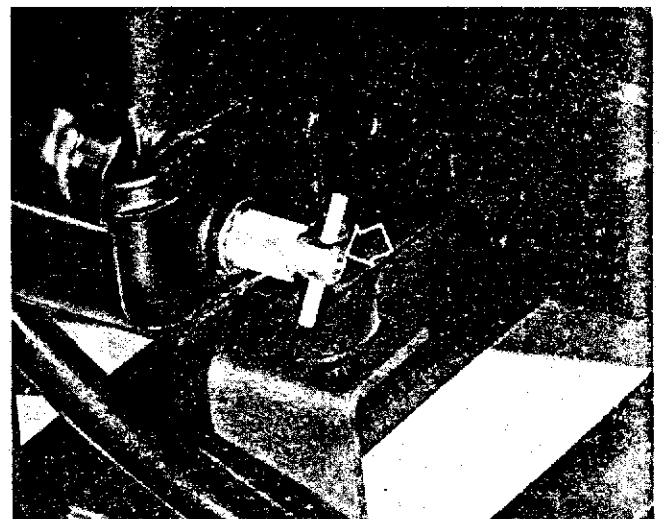
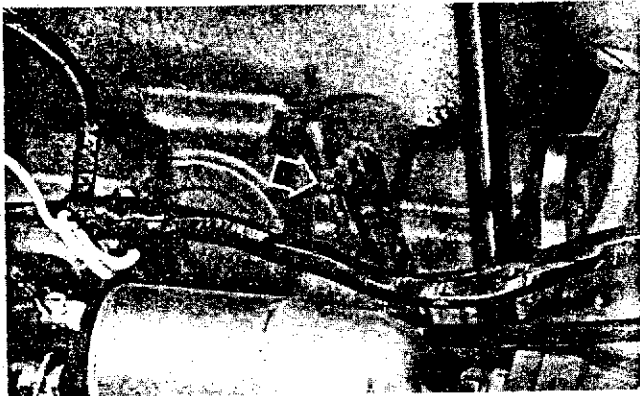

Figure 37 — Radiator Drain Valve
Figure 38 — Engine Block Drain Valve
1. Remove the radiator cap and open the drain valve at both the radiator and the engine block. The radiator drain valve is located on the bottom left side of the radiator, Figure 37. The engine block drain valve is located on the left side of the engine. See Figure 38.